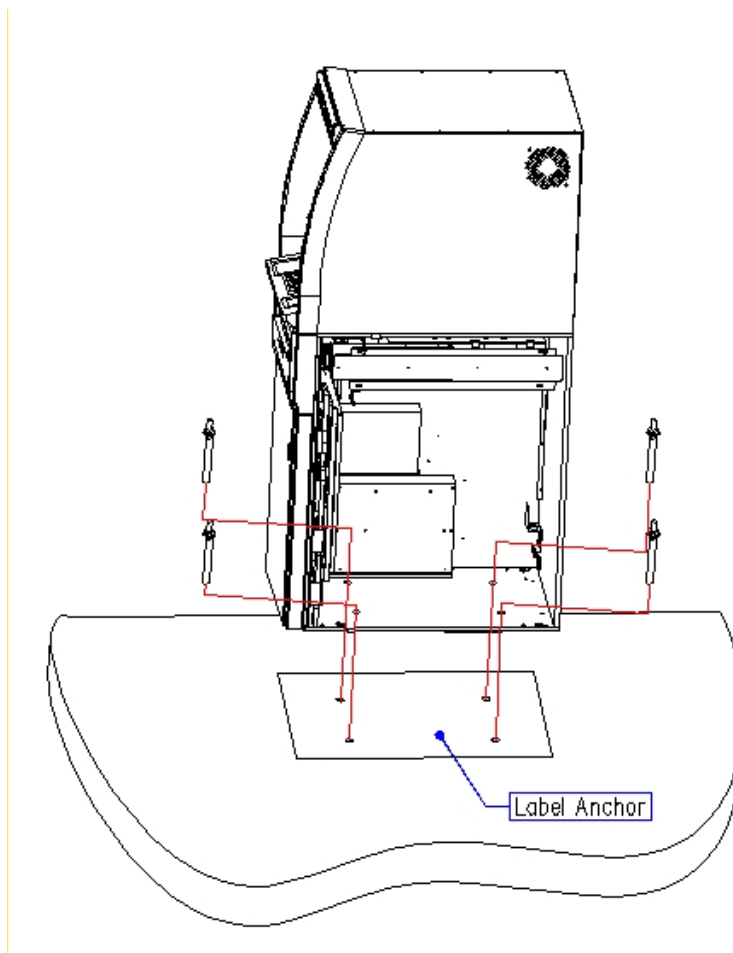

Fig.4 Placing MX5600 ATM on top of the sheet
- Place the “Anchor bolts locate sheet” at the place where the machine is to be installed. (Refer to Fig.4, 5)